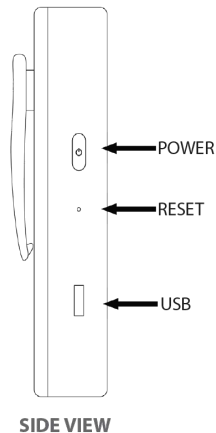

Figure 1
1. Press & release the POWER button  (see figure 1) to clear "ZONE" & "TTL" from the LCD screen.
Press & release the POWER button  (see figure 1) to clear "ZONE" & "TTL" from the LCD screen.
5. When done programming the time & date, press & release the power button (see figure 1) to exit programming mode.
8. To exit this programming mode, press & release the POWER button  (see figure 1).
Turning the ERA-VPRX on/off: When off, press & hold the power button (see figure 1) for approximately 2 seconds. To turn unit off, unlock the keypad (see "**Locking/Unlocking the Keypad**"), then press & hold the power button until the unit powers off.